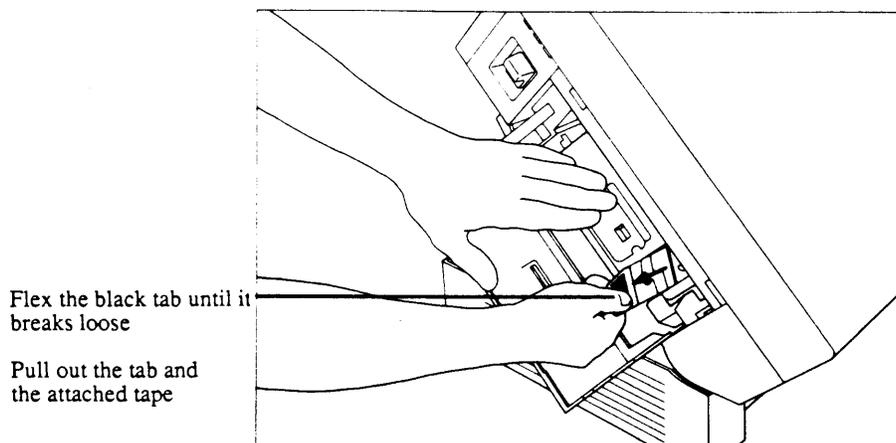

FIGURE 10
2. Flex the black tab on the toner cartridge until it breaks loose. (Be careful not to break the attached sealing tape before pulling the tab out; see Figure 10.) Hold the cartridge steady and pull the tab completely out to remove the attached sealing tapes.